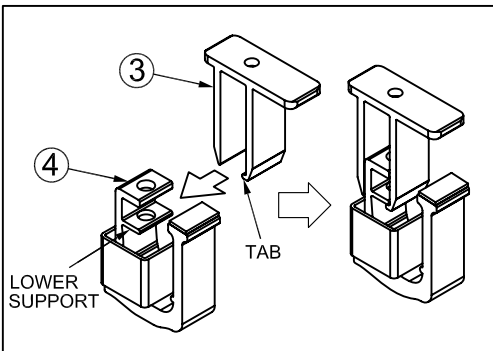

Fig. 3
4. Become familiar with J-hook by sliding the tab of the J-hook receiver (#3) under the lower support of the J-hook (#4). (See Fig 3)